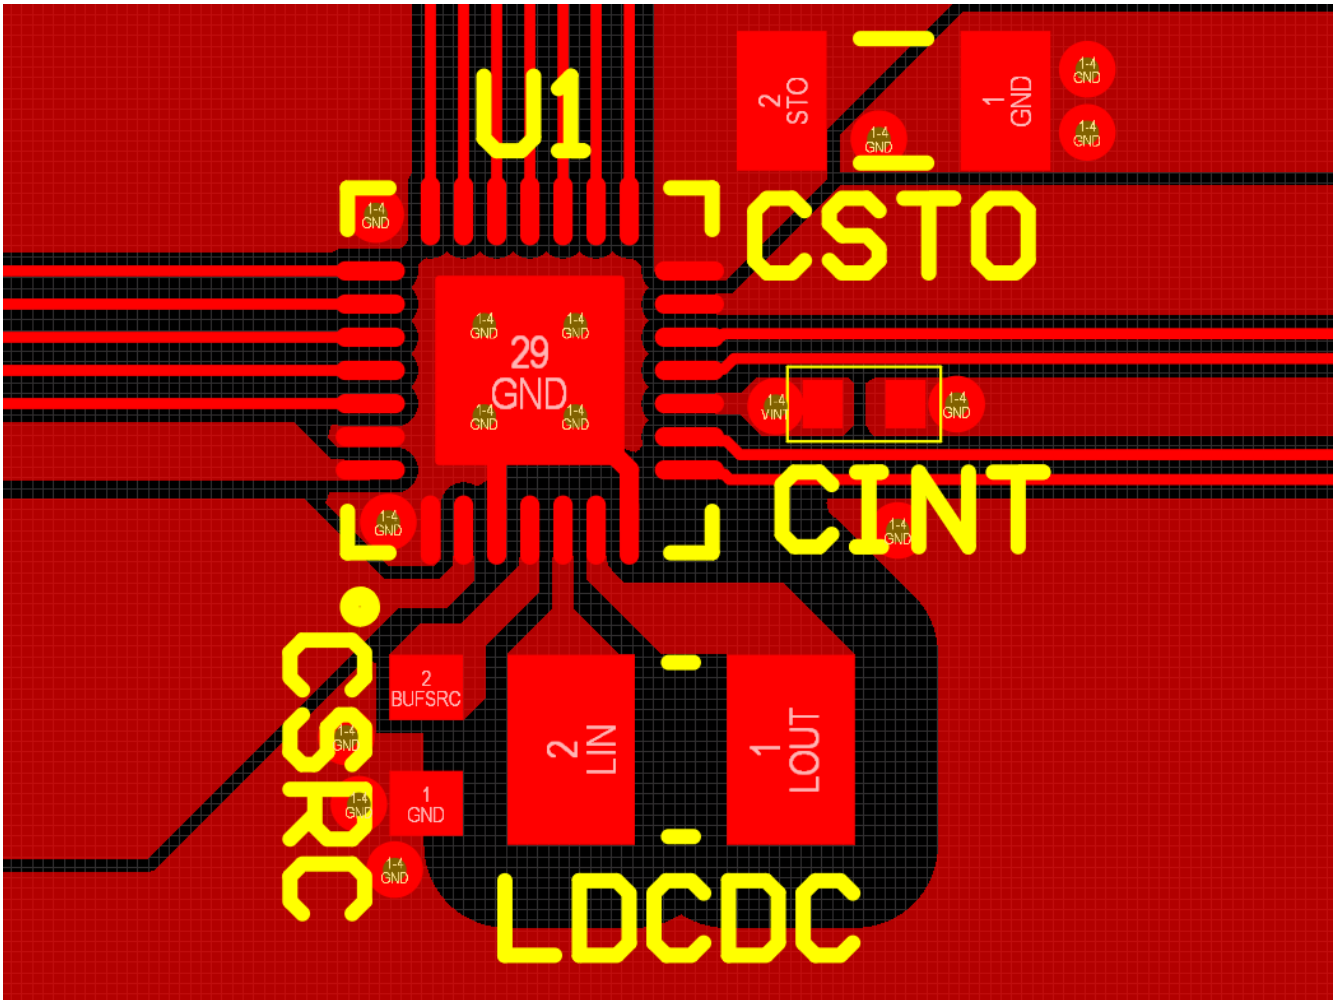

Figure 15: Layout Example for the AEM00300 and its Passive Components
- The switching nodes (**LIN** and **LOUT**) must be kept as short as possible, with minimal track resistance and minimal track capacitance. Low resistance is obtained by keeping track length as short as possible and track width as large as possible between  $L_{DCDC}$  and the AEM00300 pins. Minimal capacitance is obtained by keeping distance between **LIN/LOUT** and other signals. We recommend removing the ground plane, the power plane and the bottom layer ground pour under  $L_{DCDC}$  footprint, as well as adding distance between **LIN/LOUT** and the top ground pour, as shown on Figure 15.